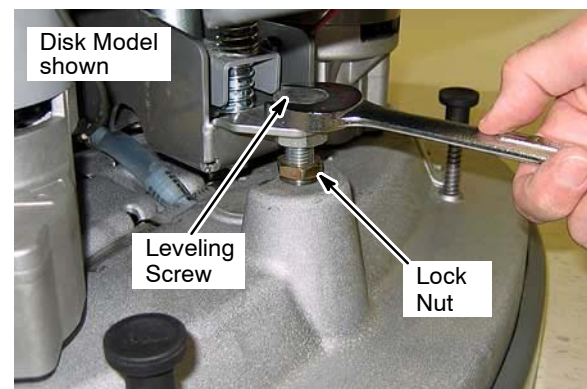

Fig. 16
3. If scrub head is level, tighten down the lock nut (Figure 16).
To level the scrub head, loosen the lock nut and turn the leveling screw clockwise to lower the rear of the scrub head or counterclockwise to lower the front (Figure 16).